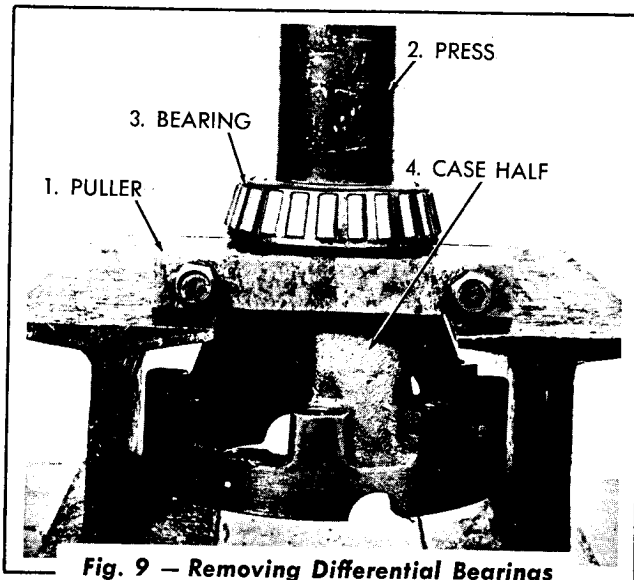

Fig. 9 - Removing Differential Bearings
5. If it is necessary to replace the differential bearings, remove the bearings using a suitable puller (Fig. 9).